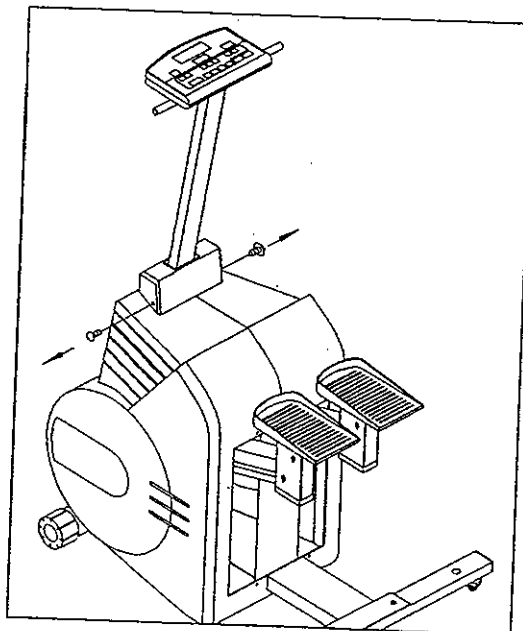

Fig. 2
2. Unscrew two screws securing the post shroud (see Fig. 2).